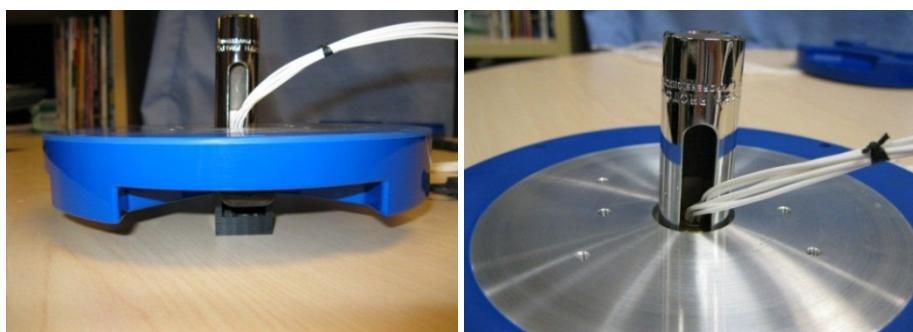

Figure 67. Lock Nut Removal Socket
11. Flip the End-Cap assembly over and insert the slotted socket onto the lock nut. Fit the cable wires into the socket's clearance slot (see Figure 67. Lock Nut Removal Socket).